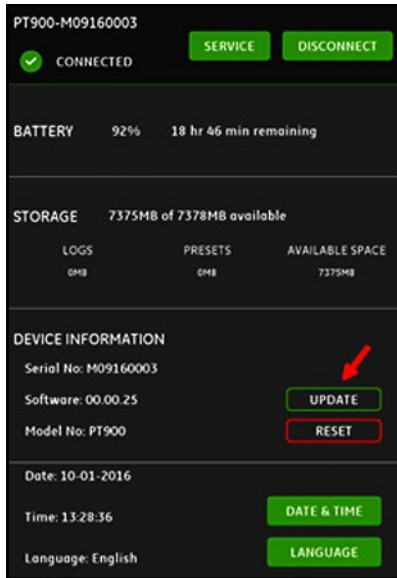

Figure 121: UPDATE Button in TRANSMITTER Menu
- In the APP TRANSMITTER menu, click the UPDATE button (see Figure 121 below) to start the update.